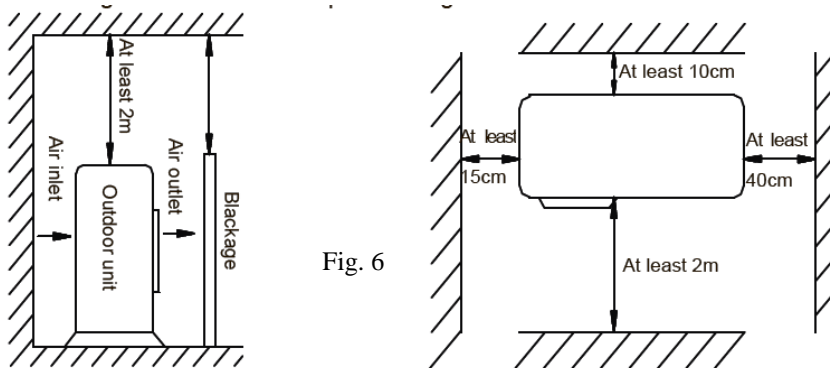

Fig. 6
- The installing distance must be required as Fig. 6 shows.